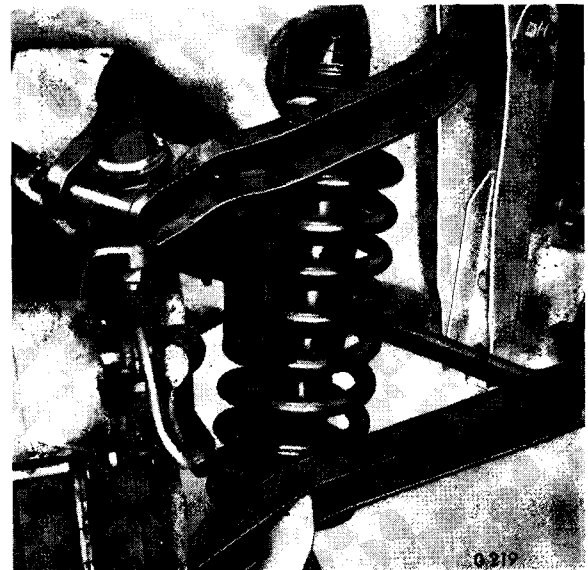

Fig. 11. Damper assembly removal
4. Remove the damper assembly (Fig. 11).